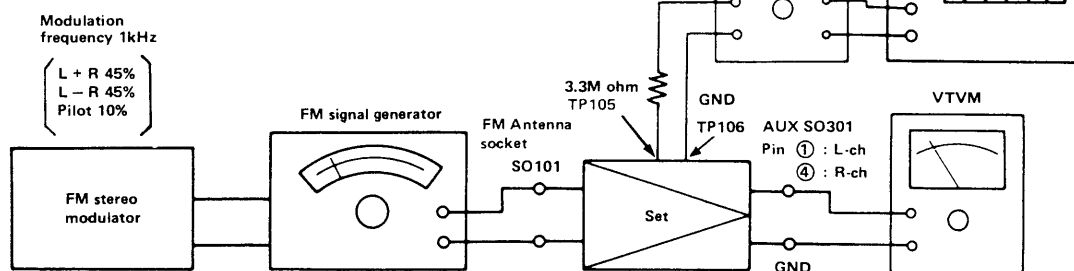

Figure 20-1
1. Make connection of instruments as shown in Fig. 20-1.